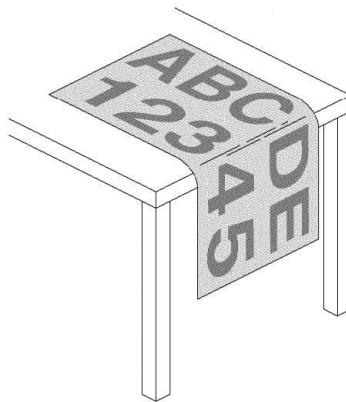

Figure 1. Loosening Prespaced Graphics from a Liner
7. If removing the prespacing tape does not remove all of the prespaced cut graphic parts from the liner easily, reapply the tape with a squeegee to secure the elements back to the liner. Then gently pull the graphic, liner-side down, over the edge of a surface. This helps loosen any embedded kiss cut edges. See Figure 1.